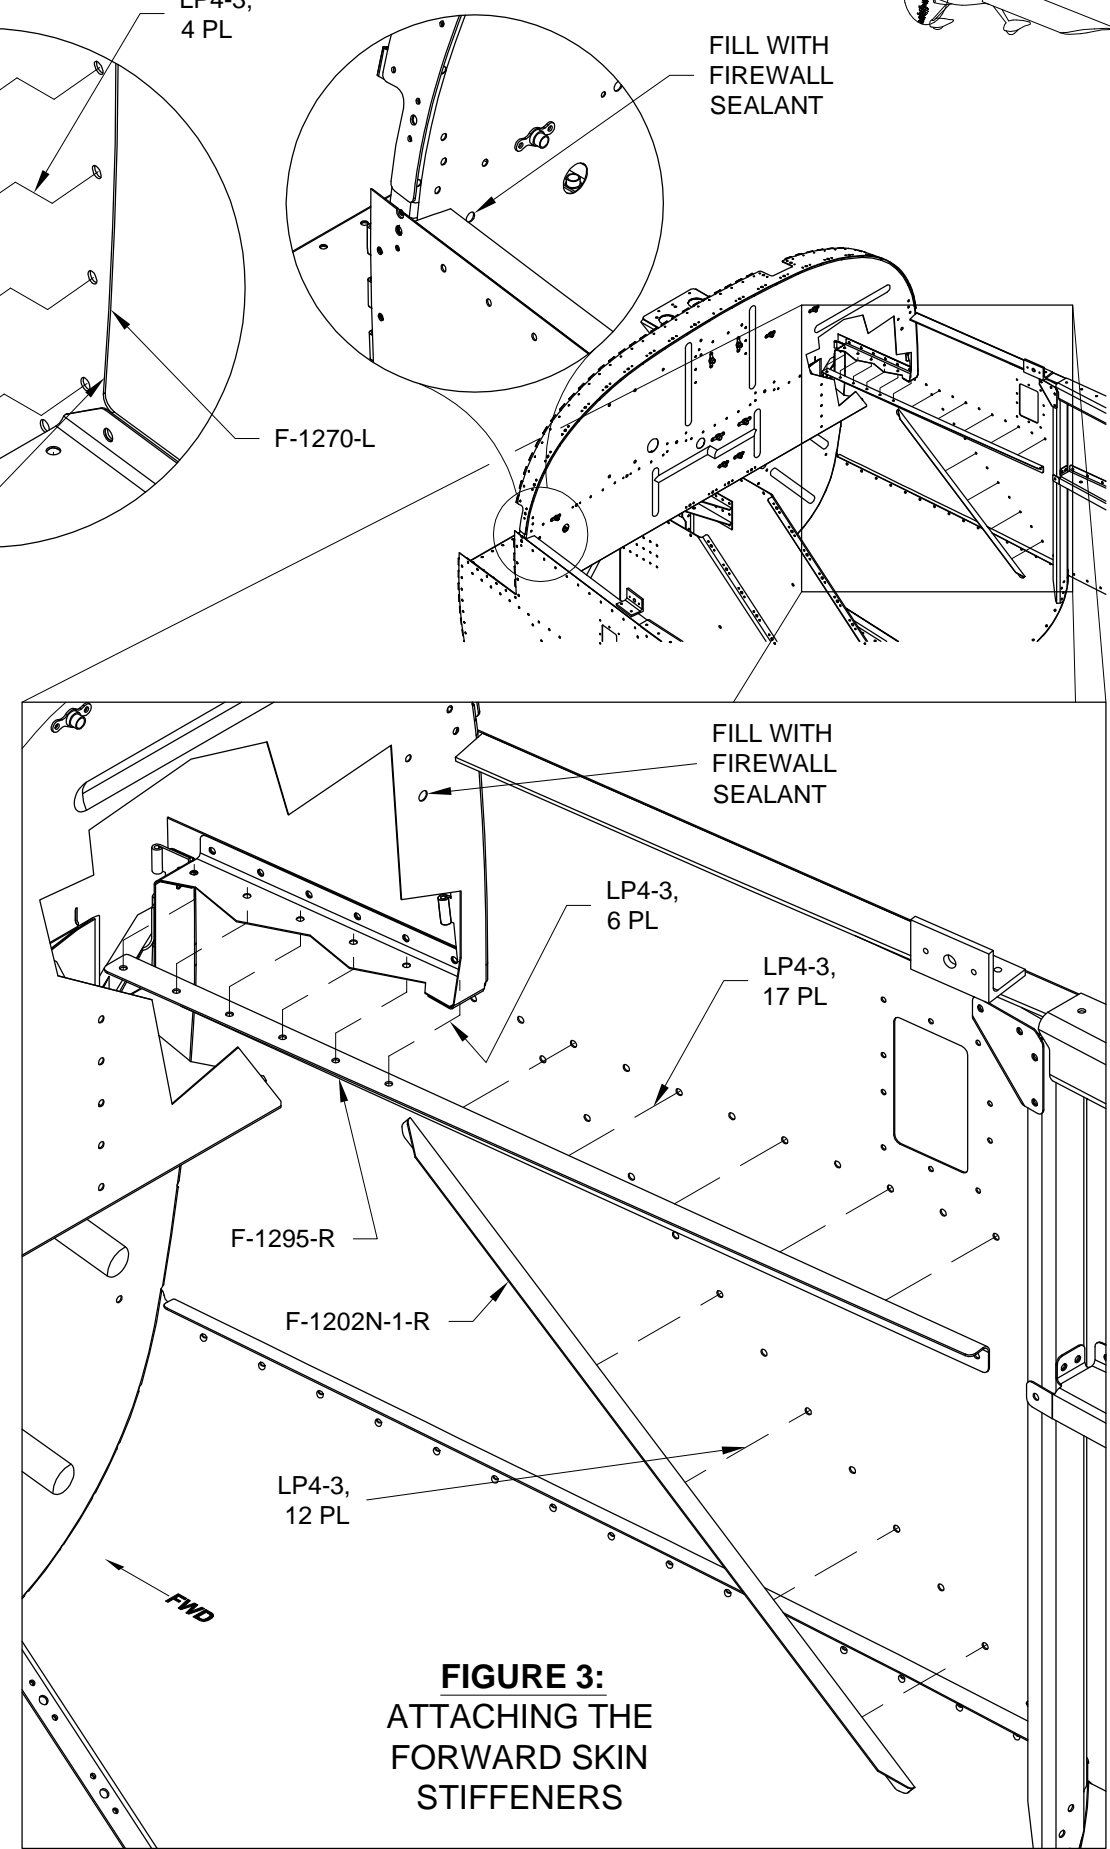

FIGURE 3: ATTACHING THE FORWARD SKIN STIFFENERS
Step 5: Clamp the F-1201J and F-1201K Upper Cowl Hinges to the F-1201H Upper Fwd Fuse Doubler. Align the hinges with the forward edge of the upper fwd fuse doubler as shown in Figure 3, and position the hinges to achieve equal edge distance at the ends. Match-Drill #40 and cleco all the corresponding holes between the upper fwd fuse doubler and the upper cowl hinges. Remove and deburr the parts. Machine countersink the rivet holes in the upper fwd fuse doubler. Cleco then rivet the parts together as shown in Figure 3.
Step 6: Dimple then rivet nutplates to the forward and aft sides of the F-1201A Firewall Upper per the call outs given in Figure 3.
Step 7: Dimple then rivet nutplates to the F-1201R Antenna Shelf per the call outs given in Figure 3.
Step 8: Rivet the F-1201R Antenna Shelf to the F-1201A Firewall Upper per the call outs given in Figure 3.
Step 9: Dimple the rivet holes in the bottom flange of the F-1201A Firewall Upper per the call outs given in Figure 3.
Step 6: Cleco then rivet the F-1202N-1-L & -R Fwd Skin Stiffeners to the F-1270-L & -R Fuselage Side Skins per Figure 3 callouts.
Cleco then rivet the F-1295-L & -R Skin Stiffeners to the F-1270-L & -R Side Skins, and F-1201 B Firewall Shelf per Figure 3 callouts.
Step 7: Fill the #11 tooling holes in the F-1201A Firewall Upper with Firewall Sealant as shown in Figure 3. Add a bead of fuel tank sealant around the perimeter of the firewall parts. Use a popsicle stick to form a smooth fillet. Make sure all gaps from the bend relief notches along the flange and in the corners are fully sealed. Use a light on the forward side of the firewall to help verify that the full perimeter of the firewall is fully sealed.